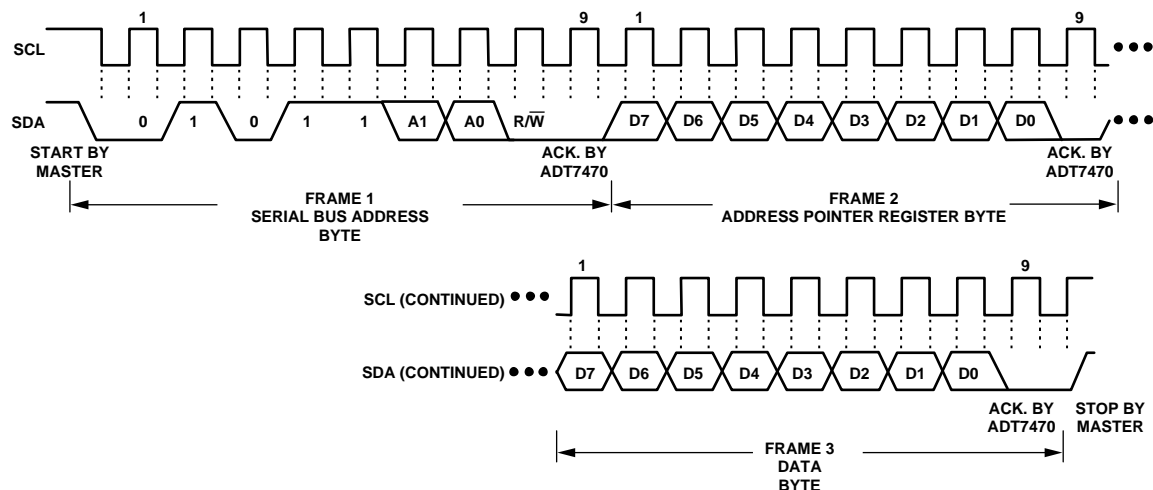
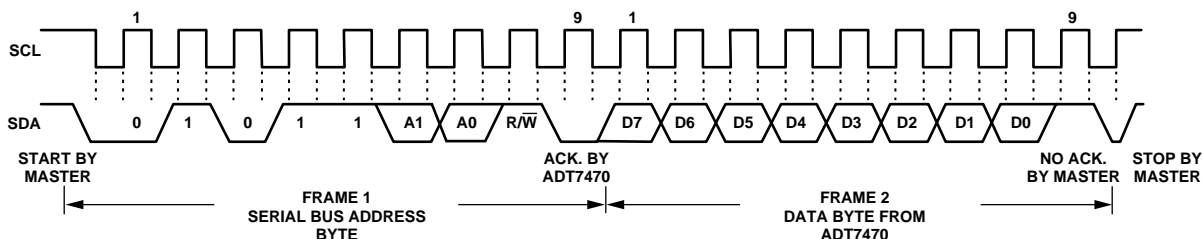

Figure 7. Writing a Register Address to the Address Pointer Register, Then Writing Data to the Selected Register
Figure 9. Reading Data from a Previously Selected Register
This is illustrated in Figure 7. The device address is sent over the bus followed by R/W set to 0. This is followed by two data bytes.
A read operation is then performed consisting of the serial bus address, $\overline{R}/\overline{W}$ bit set to 1, followed by the data byte read from the data register. This is shown in Figure 9.
- In Figure 7 to Figure 9, the serial bus address is shown as the default value 01011(A1)(A0), where A1 and A0 are set by the address select mode function previously defined.